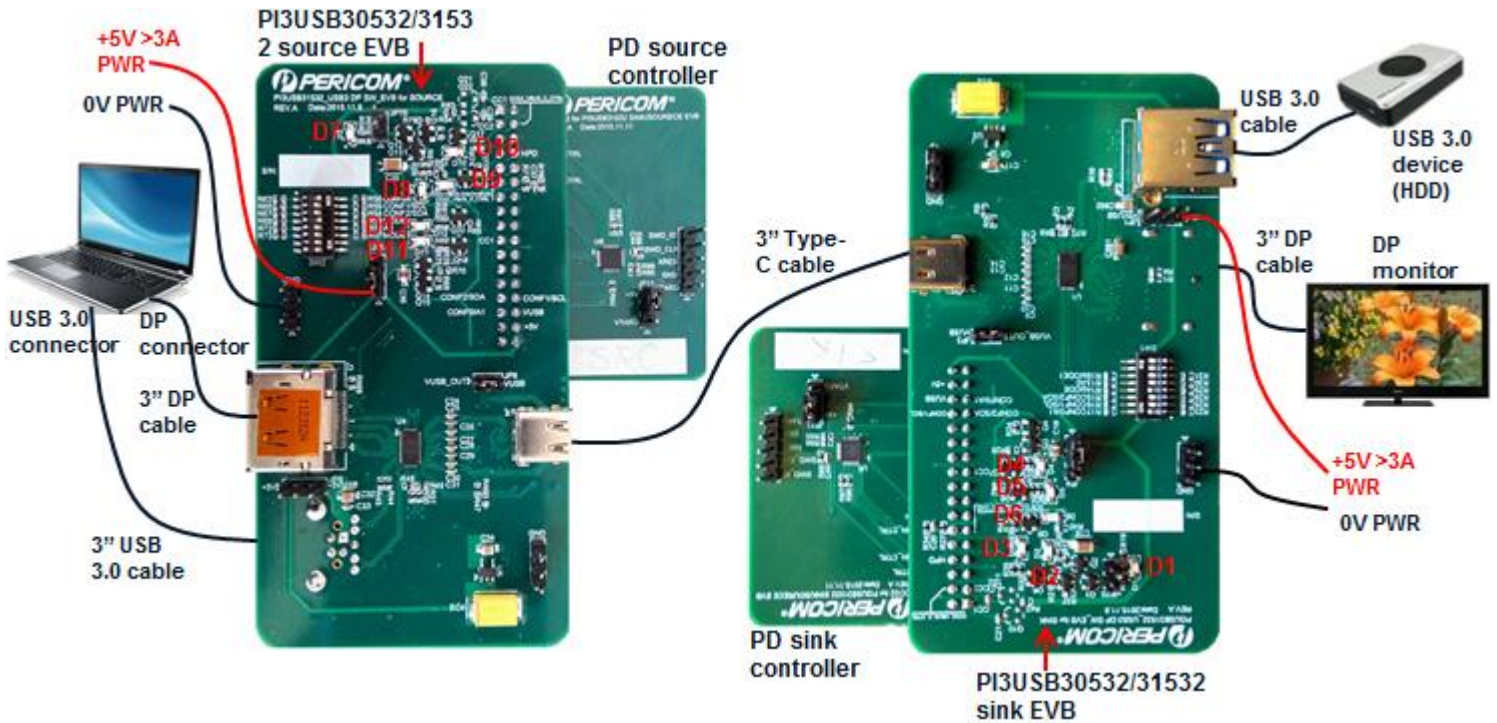

Figure 1, PI3USB30532, PI3USB31532 PD source and sink evaluation boards test setup
2.1. Connect the setup (figure 1):
The PI3USB3X532 evaluation boards shipping package includes two 3" DP cables and one 3" type-C cable to provide an over-stress test setup (figure 1) as to compare to the less stressful real cases using PI3USB3X532 in source and sink system designs, as the comparison below.
Evaluation setup (figure 1) has total 9" cable, two PI3USB3X532 passive switches in cascading, six connectors and 4" extra trace on the two evaluation boards, as: